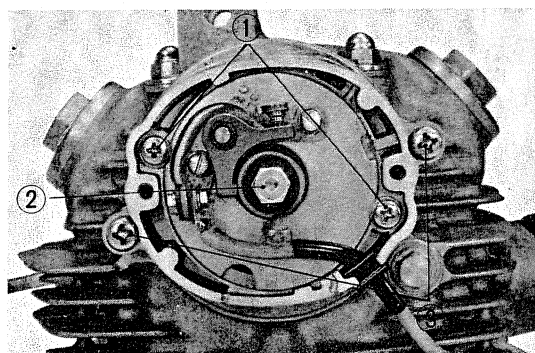

Fig. 32 ① 5mm screws ② 6mm bolt ③ 6mm screws
- 2) Loosen two 5mm mounting screws and remove the contact breaker. (Fig. 32)
- 3) Loosen the 6mm mounting bolt and remove the governor. (Fig. 32)
- 4) Loosen two 6mm screws and remove the point base. (Fig. 32)